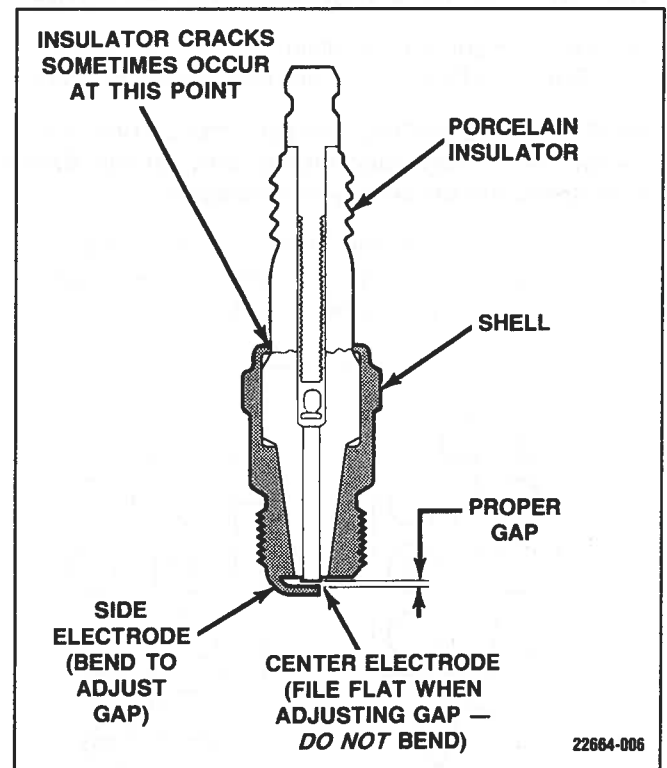

Figure 4-1. Spark Plug
1. Remove and inspect each plug (Figure 4-1) individually for badly worn electrodes, glazed, broken or blistered porcelain, and replace where necessary. Check Section 5, Troubleshooting, for help in determining the reusability of each spark plug.